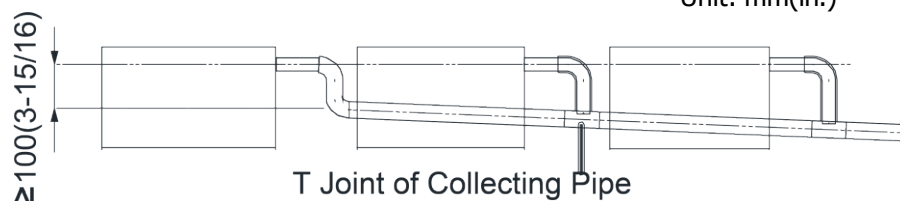

Fig 4.3.4
- (5) When connecting several drainpipes, follow the instruction as indicated in Fig 4.3.4. Choose the drain collecting pipe that matches unit capacity. Unit: mm(in.)